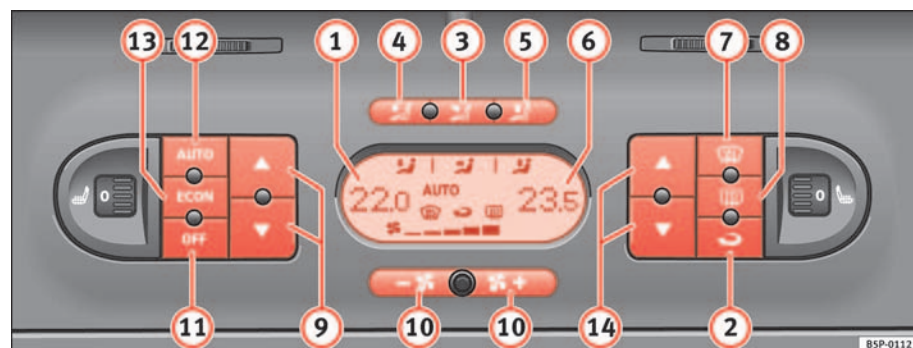

Fig. 126 On the dash panel: 2C Climatronic controls
- Press the temperature control buttons $\Rightarrow$ page 150, fig. 126 ⑨ or ⑭ in order to adjust the temperature on the left hand side or the right hand side respectively.
- Press the button  $\Rightarrow$ page 150, fig. 126. “AUTO” is shown on the display. ▶